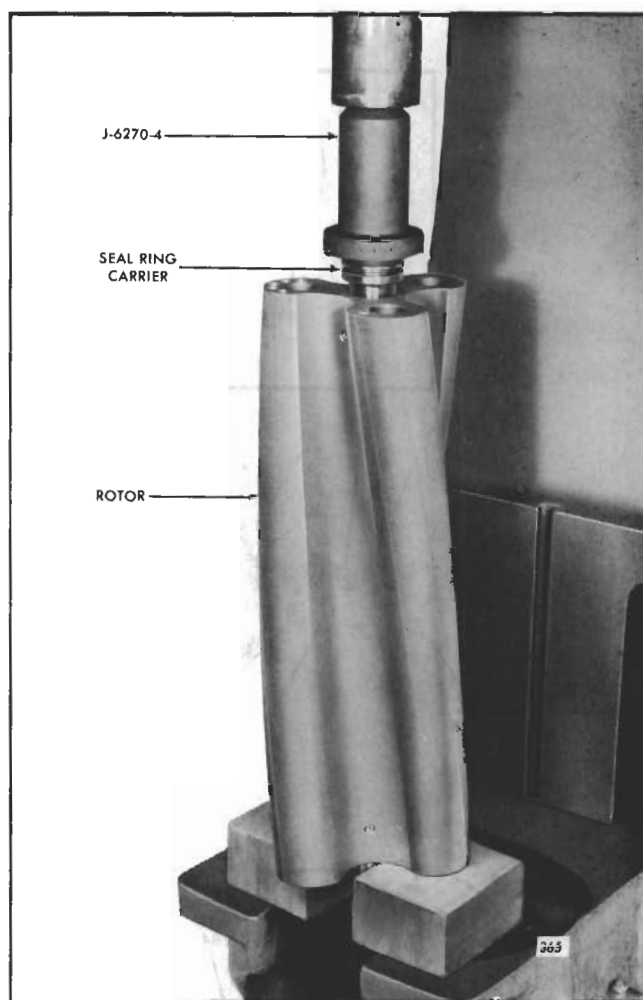

Fig. 12 - Installing Oil Seal Ring Carrier on Blower Rotor Shaft (V-92T Blowers)
- a. Support one of the rotor assemblies on wood blocks on the bed of an arbor press as shown in Fig. 12.